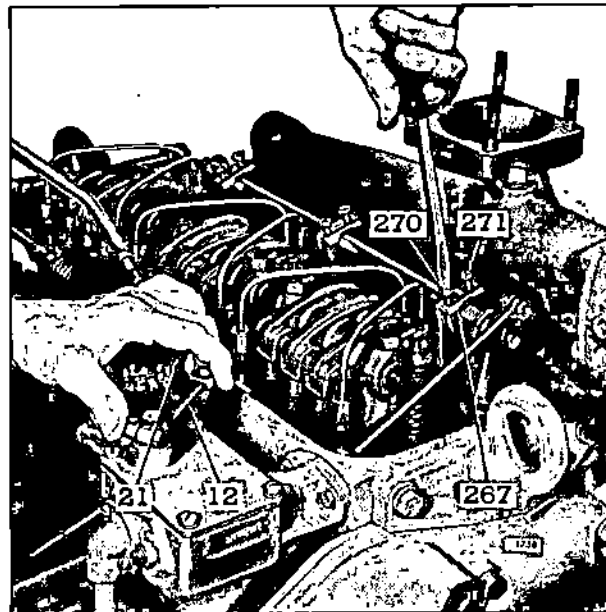

Fig. 11 - Positioning No. 1 Injector Rack Control Lever
Adjust the No. 1 injector rack control lever (267) Fig. 11 first, to establish a guide for adjusting the remaining injector rack control levers.
3. Loosen all the inner and outer adjusting screws shown in Fig. 11. Be sure all the injector rack control levers are free on the injector control tube.
justing screw (270), Fig. 11, into No. 2 injector rack control lever until the injector rack has moved into the full fuel position and the screw is bottomed on the injector control tube. Turn the outer adjusting screw (271) until it bottoms lightly on the injector control tube. Then alternately tighten both the inner and outer adjusting screws until they are tight.